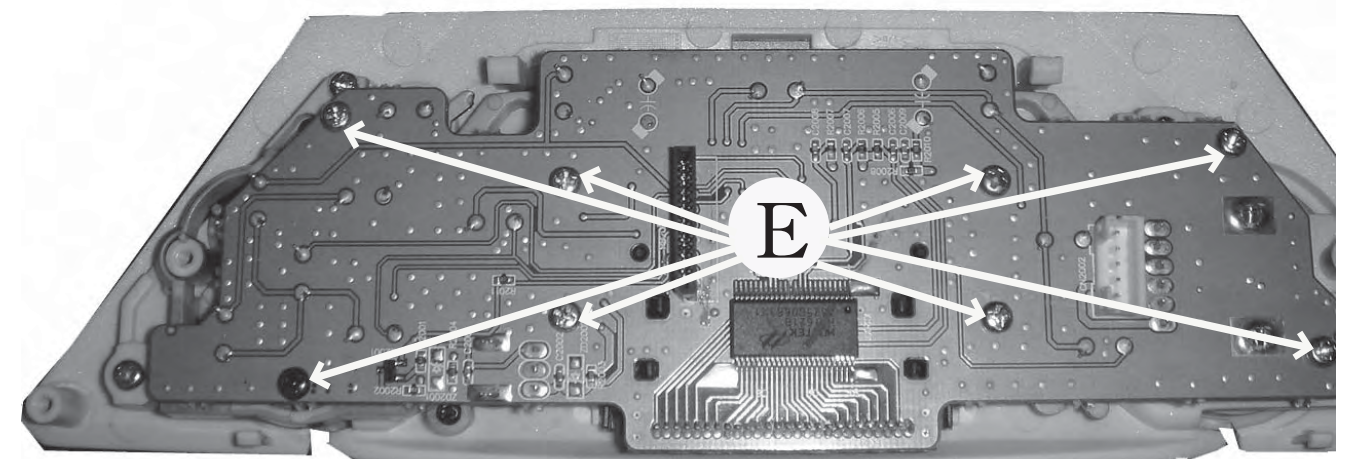

Figure 8
- 5) Loosen 8 screws "E" as shown in figure 8 to remove the control board assembly.